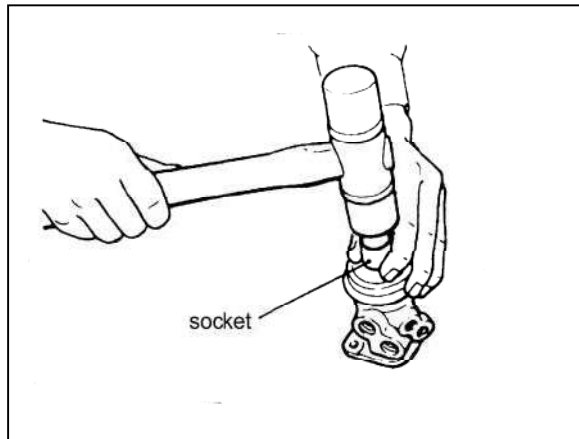

Fig 17-26
4) UPPER BEARING/UPPER OIL SEAL REMOVAL(See fig 17-26)